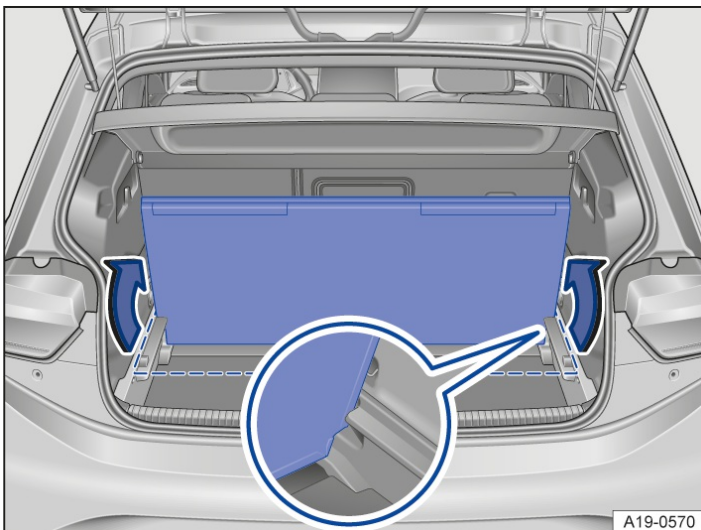

Fig. 2 In the luggage compartment: locking the second luggage compartment floor in position.
- Lift the folded luggage compartment floor and insert into the side retainers with the open side facing down → Fig. 2 (close-up).